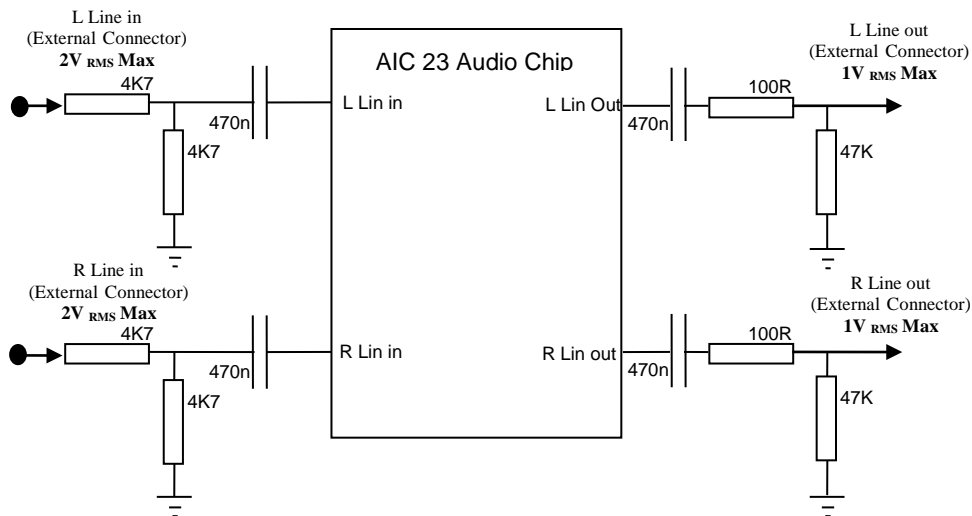

Figure 4: AIC23 Audio chip external components (adapted from TMS320C6713 Technical ref (page A-14, 2003 revision A))
- **Why is the full rectified waveform centred around 0V and not always above 0V as you may have been expecting? (see figure 4 for clues)**